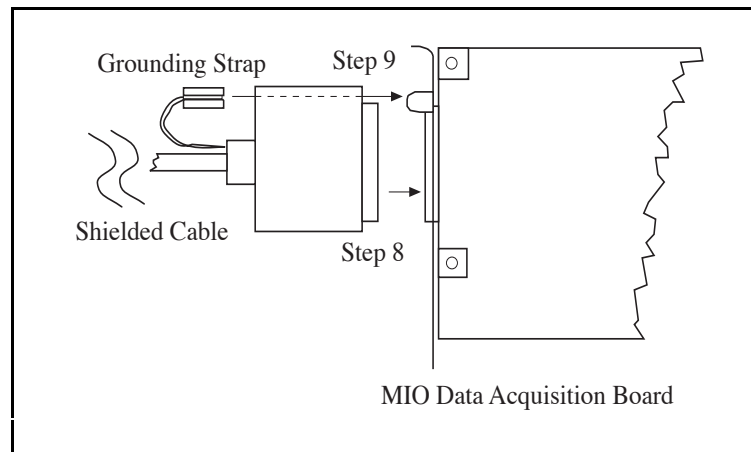

Figure 6. Cable to I/O Connector Connection
8. Connect the 50-pin connector (the end with the grounding strap) of the cable to the I/O connector on the MIO board as shown in Figure 6.